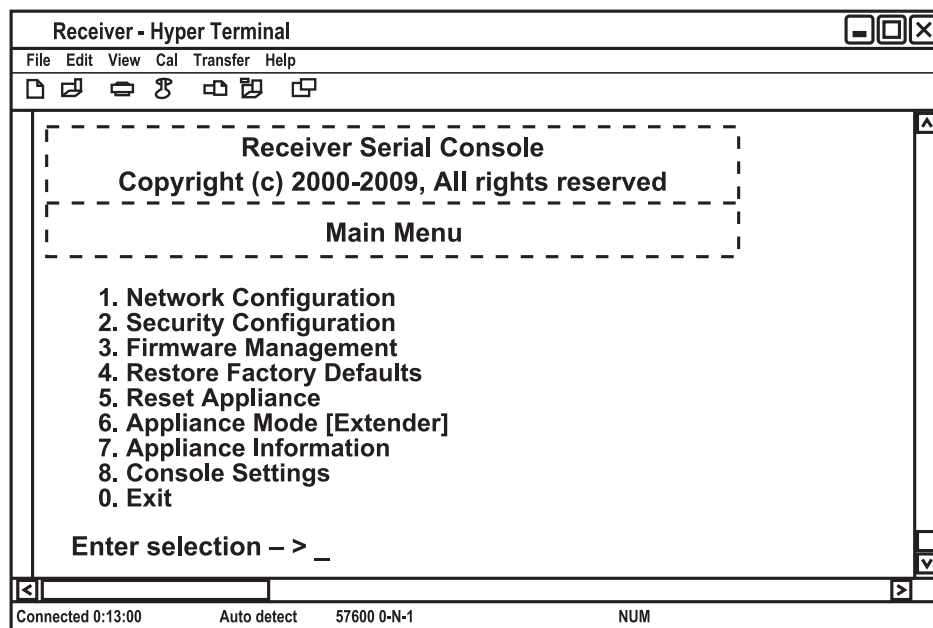

Figure 4-11. Receiver Main menu.
2. Type the password and press "Enter." The Receiver Main Menu (Figure 4-11) will appear.